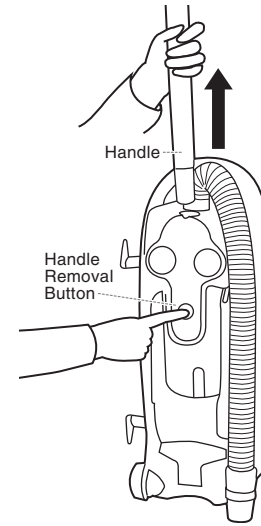

Fig. 13
- Push handle removal button and pull up on handle to disconnect from body. (Fig. 13)